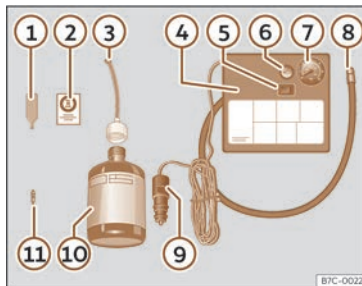

Fig. 238 Standard display: contents of the anti-puncture kit.
The anti-puncture kit is located underneath the floor covering in the luggage compartment. Includes the following components >>> Fig. 238:
- Unscrew the tyre valve cap and insert. Use the device >>> Fig. 238 ① to remove the valve cap. Place it on a clean surface.
- Shake the tyre sealant bottle vigorously >>> **Fig. 238 10**.
- Screw the tyre inflation hose >>> **Fig. 238 3** into the tyre sealant bottle. The bottle's seal will break automatically.
- Remove the filler cap >>> **Fig. 238 3** and screw the open end of the tube into the tyre valve.
- Replace the howitzer with the device >>> **Fig. 238 1** onto the tyre valve.
- Screw the tyre inflation tube of the compressor >>> **Fig. 238 8** on the tyre valve.
- Check that the air evacuation screw is closed >>> **Fig. 238 6**.
- Attach the connector >>> **Fig. 238 9** to the vehicle's 12 volt power outlet >>> page 229.
- Switch on the air compressor with ON/OFF switch >>> **Fig. 238 5**.
- Attach the sticker >>> **Fig. 238 2** to the instrument panel display, within the driver's field of vision.
Screw in the inflator tube >>> **Fig. 238 8** again and check the pressure on the gauge **7**.